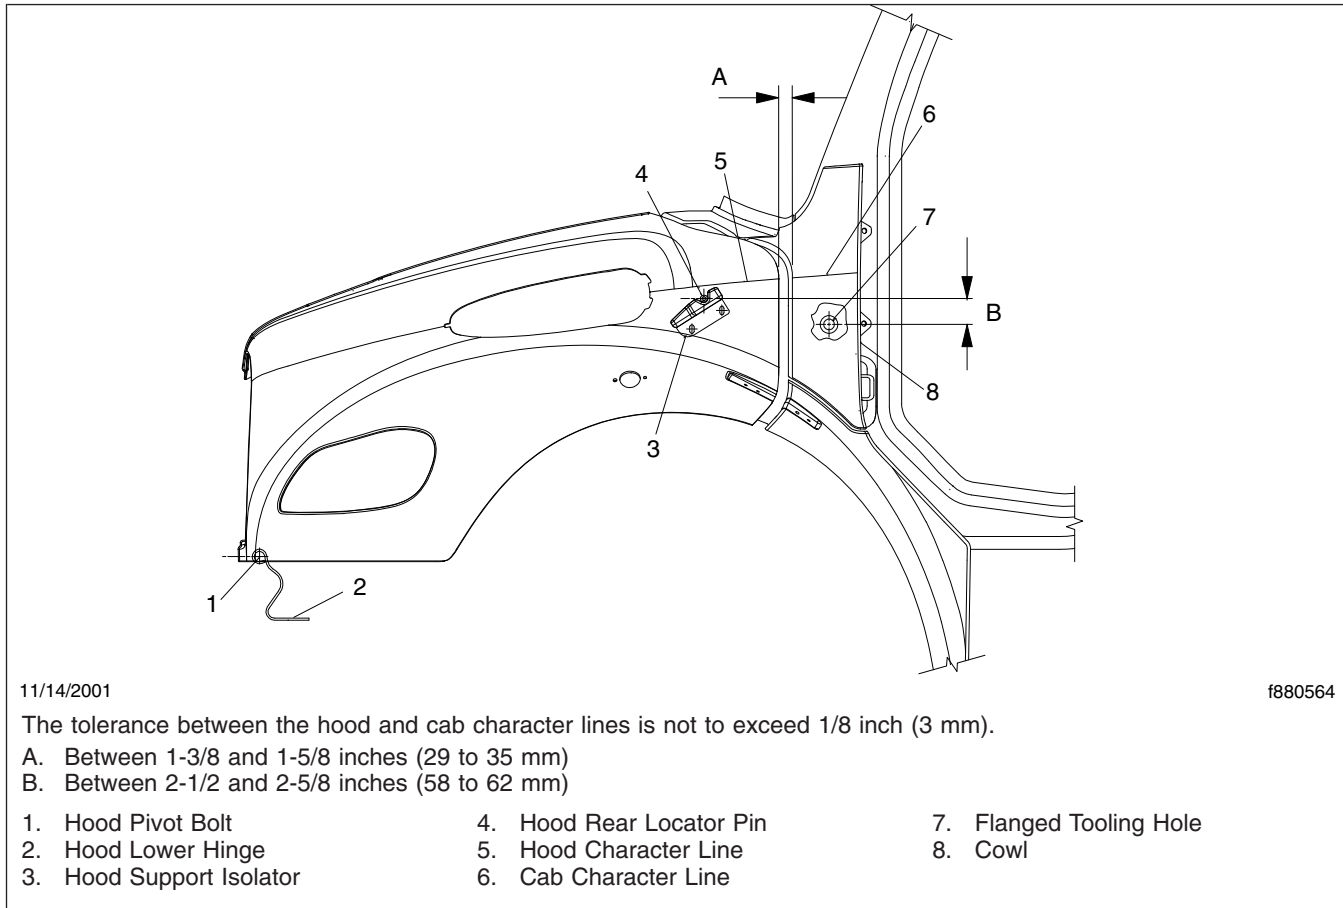

Fig. 1, Hood Fore-and-Aft and Rear Height Measurements
2. With the hood in the operating position, and both hood latches latched, measure the gap between the rear vertical edge of the hood and the front outer vertical edge of the cowl at both sides of the vehicle. See Fig. 1. The gap should be between 1-3/8 and 1-5/8 inches (29 to 35 mm).